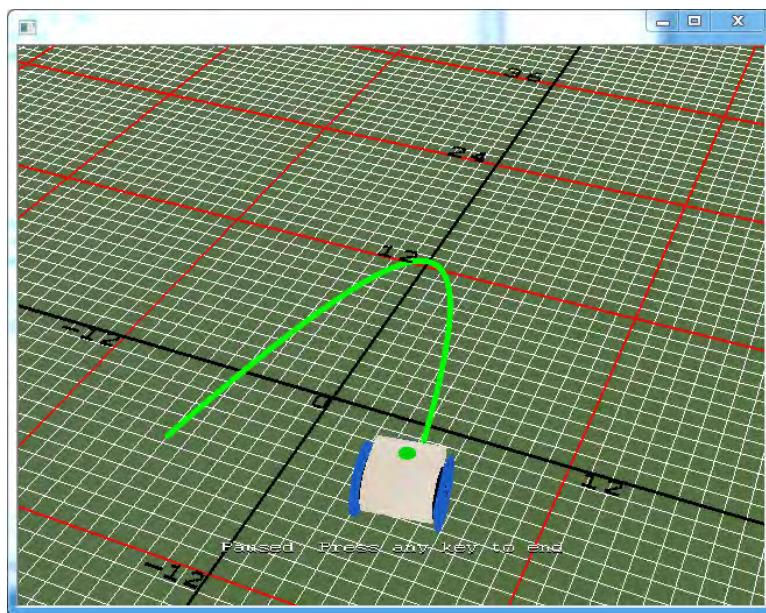

Figure 10.15: The RoboSim scene with the robot trajectory for program `drivexyofunc2.ch`
2. Write a program `drivexytoexpr2.ch`, using the member function `drivexyToExpr()`, based on Program 10.5, that drives a virtual Linkbot-I along the trajectory of a parabola from (-6, -5.5) to (6, -5.5), as shown in Figure 10.15.